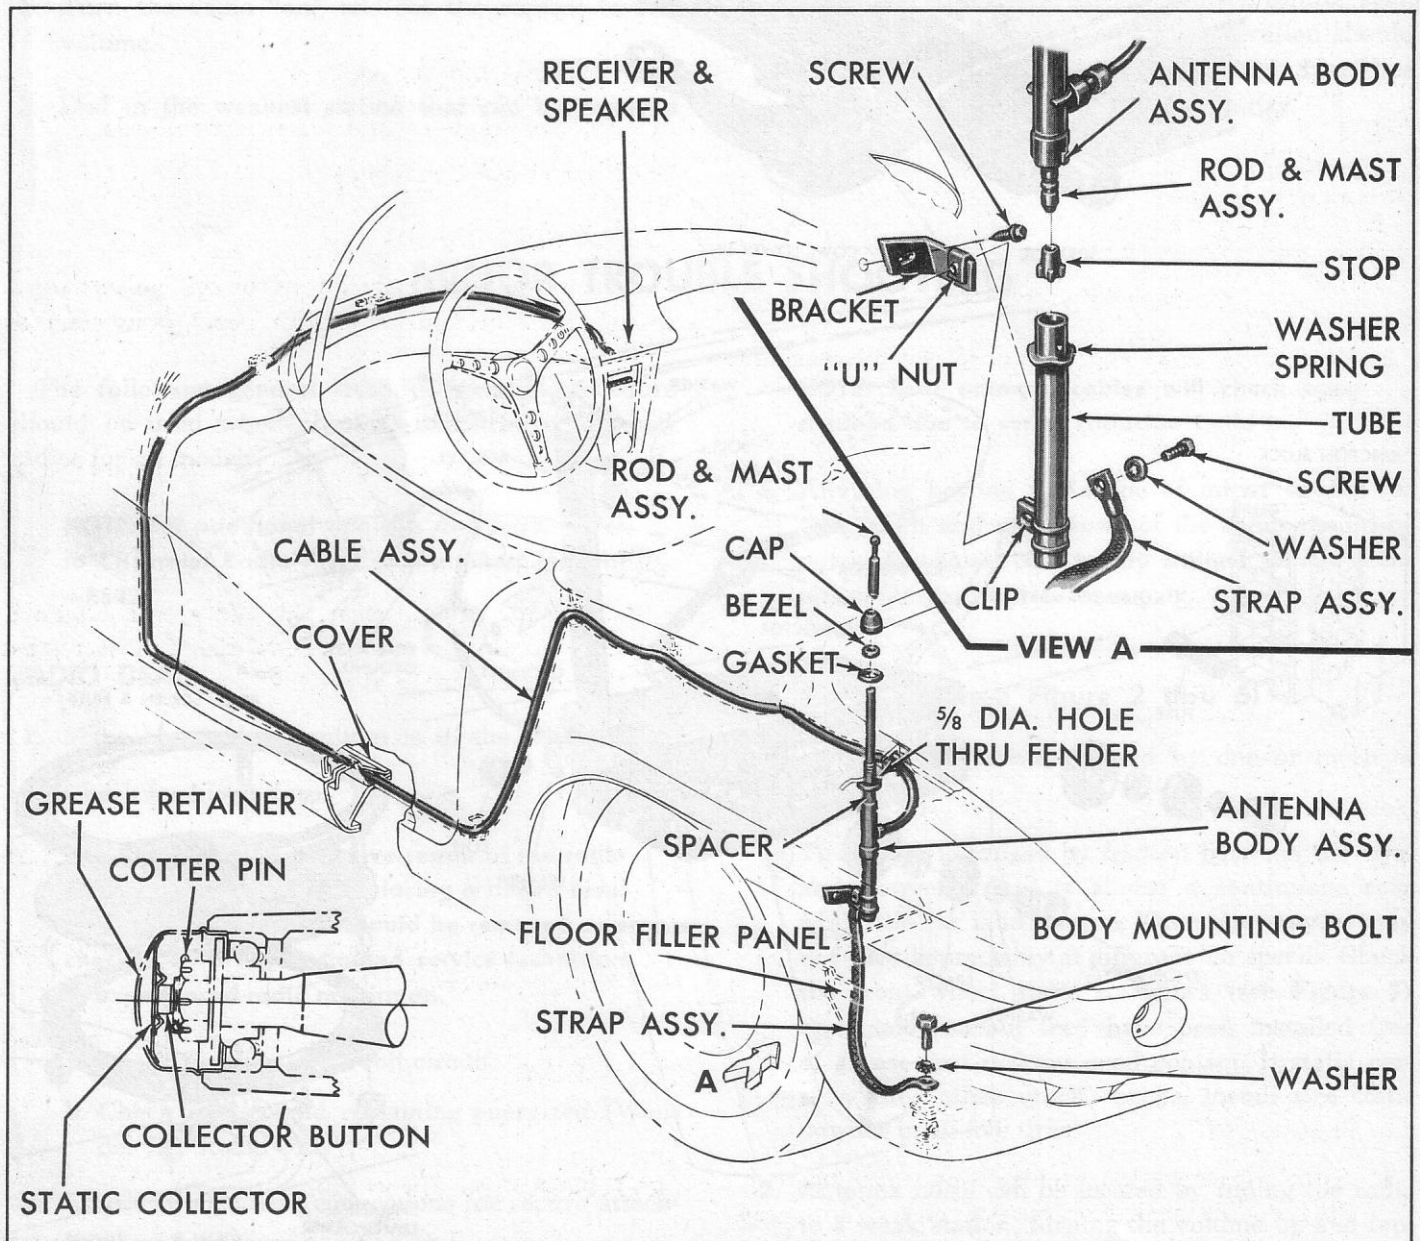

Fig. 3—Radio Antenna
1. Tire static is caused by friction between the tires and pavement and is almost a continuous roar while the car is in motion. The noise may or may not vary appreciably at different car speeds. Check the front wheel static collectors (see Figure 3) and make certain they have been installed free of grease and making good contact. If static persists after other quick checks, install tire static powder in all five tires.
### RADIO WEAK (see Figure 3 thru 6)
### ANTENNA (fig. 3)
### STATIC COLLECTORS (fig. 3)
### ANTENNA (see Figure 3)
#### STATIC COLLECTORS (fig. 3)